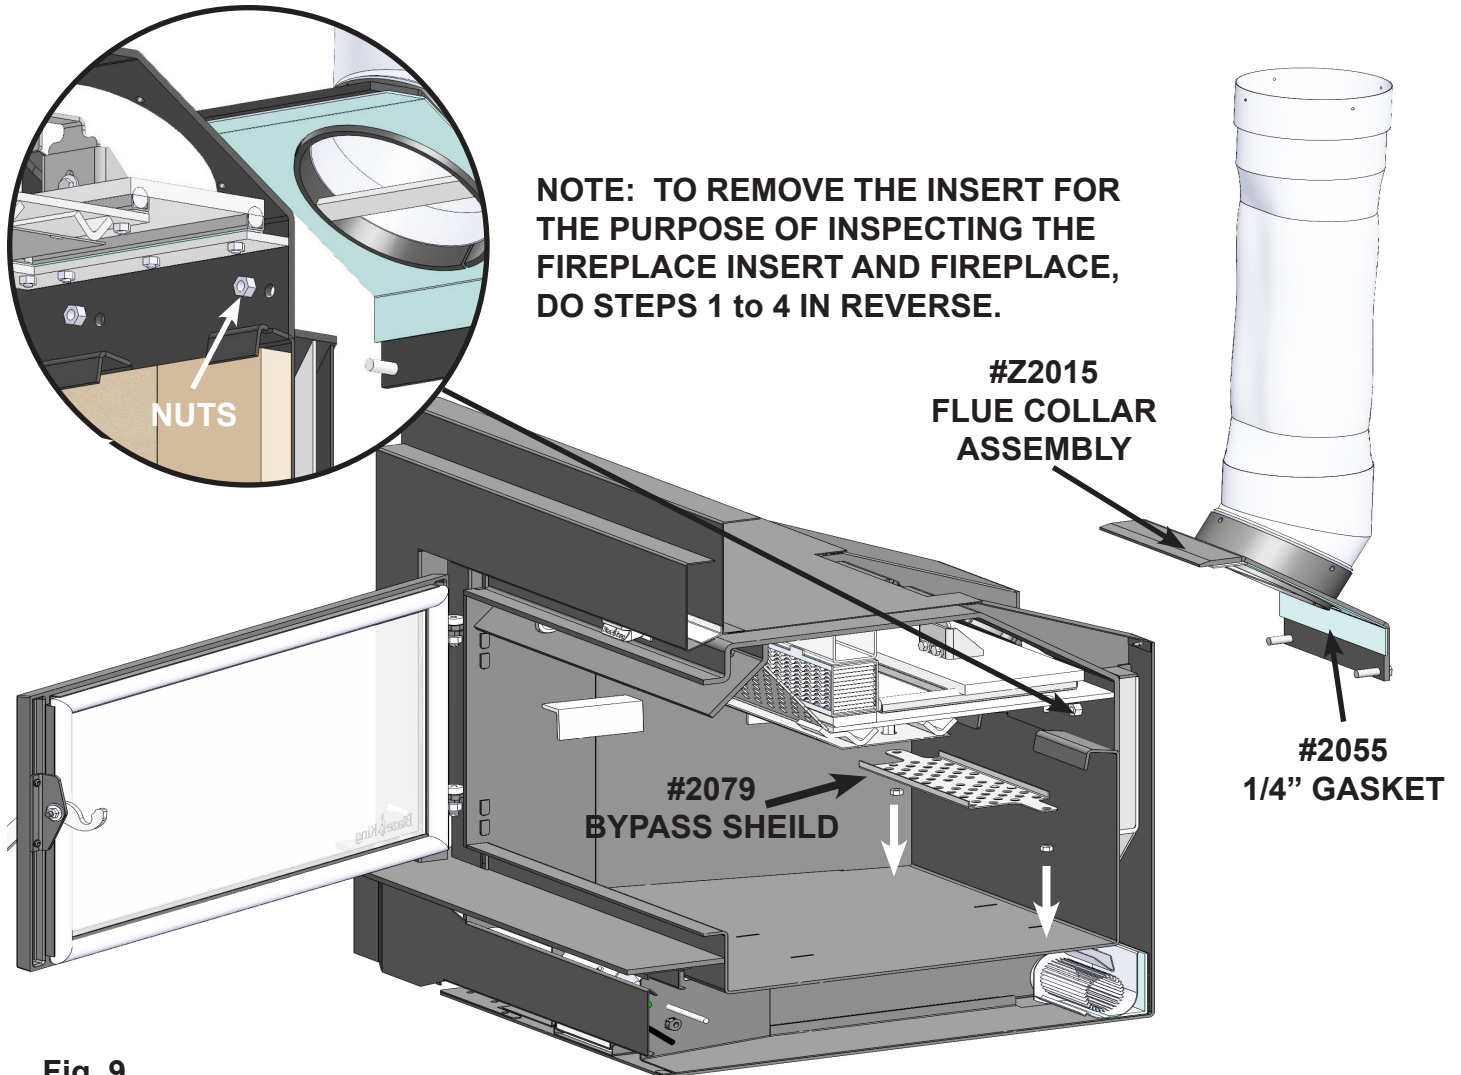

Fig. 9
3. Once sealed, fasten flue collar assembly to firebox using a 9/16" wrench, and the supplied stainless steel nuts (**Fig. 9**). Tighten flue adapter bolts evenly so a tight seal is maintained.